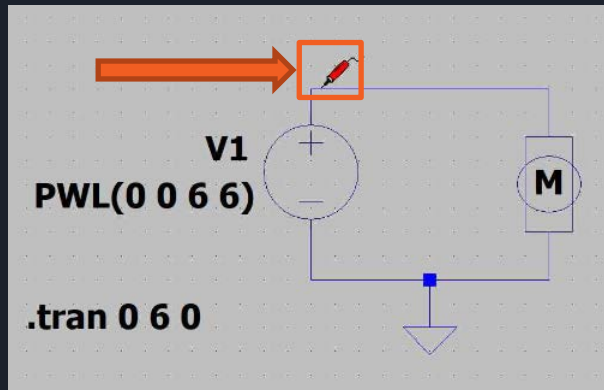
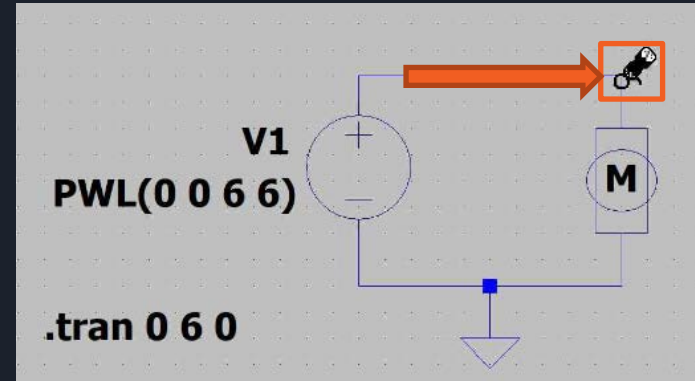

Figure 9.
Figure 10.
- In simulation, probe the *voltage* output from the voltage source, as shown in figure 9. The voltage waveform should show up as 'V(n001)' .
- Also, probe the *current* entering the motor, as shown in figure 10. The current waveform should show up in simulation as 'Ix(x1:INPUT)'
- To measure current, make sure to click on the connection point of the wire and the motor input. You should see the symbol in the orange box shown in figure 10 instead of the red probe in figure 9 .